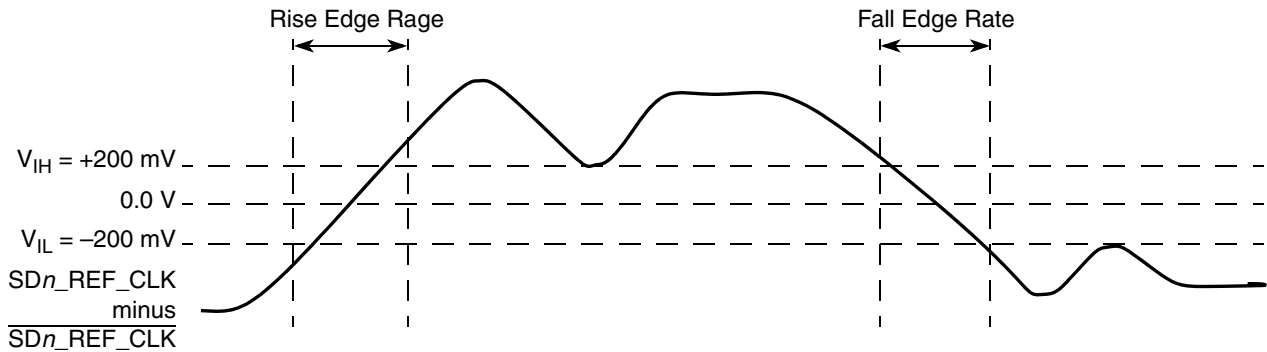

Figure 49. Differential Measurement Points for Rise and Fall Time
- Measured from –200 mV to +200 mV on the differential waveform (derived from SDn_REF_CLK minus SDn_REF_CLK). The signal must be monotonic through the measurement region for rise and fall time. The 400 mV measurement window is centered on the differential zero crossing. See Figure 49.